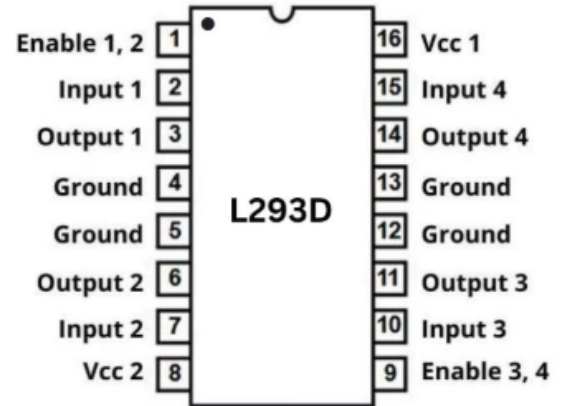

Fig. 1. L293D Motor Driver IC
- 3) Plug the **L293D** motor driver IC in Fig. 1 on the breadboard.